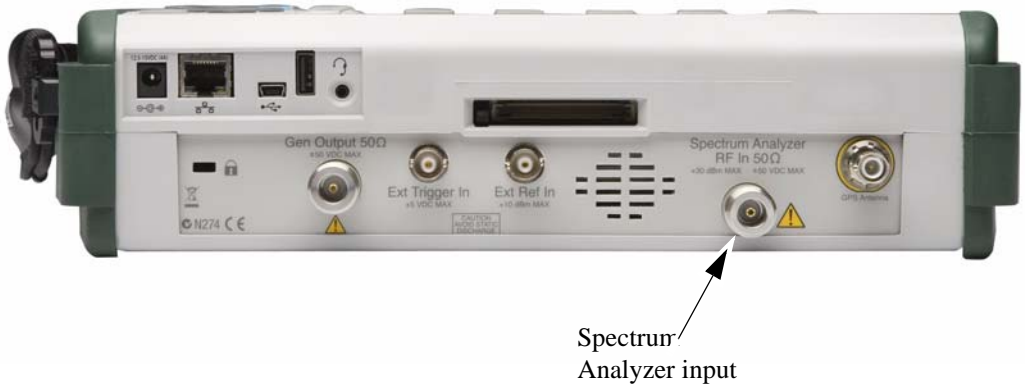

Figure 17-3. Spectrum Master Connections – Spectrum Analyzer RF in
1. Attach the antenna to the Spectrum Analyzer connector on top of the instrument (refer to Figure 17-3).